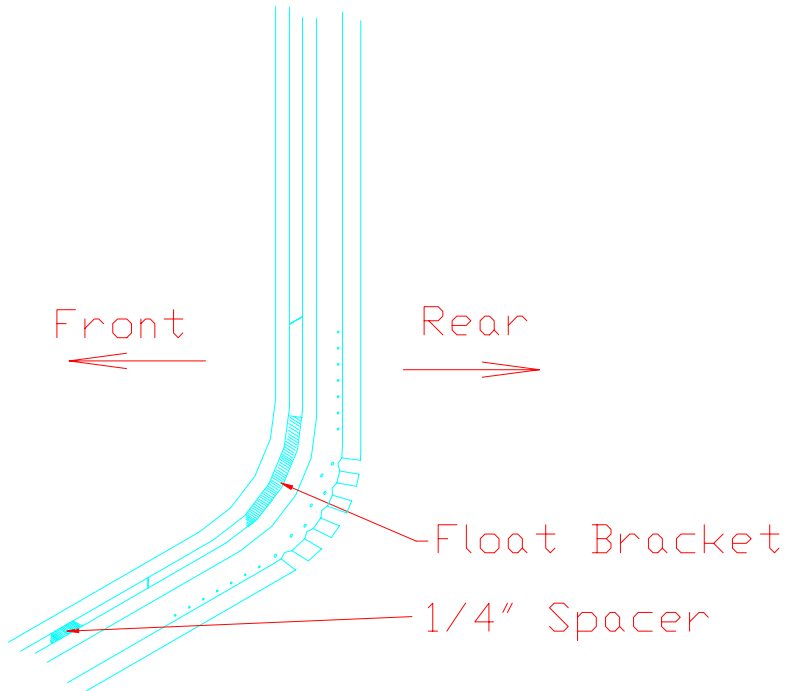

Figure 9.16.5
- 14) Put the brackets back in place and cleco together with the bulkheads and doublers on each side. As in figure 9.16.5. Also place a 1/4" spacer on the floor between the bulkheads.